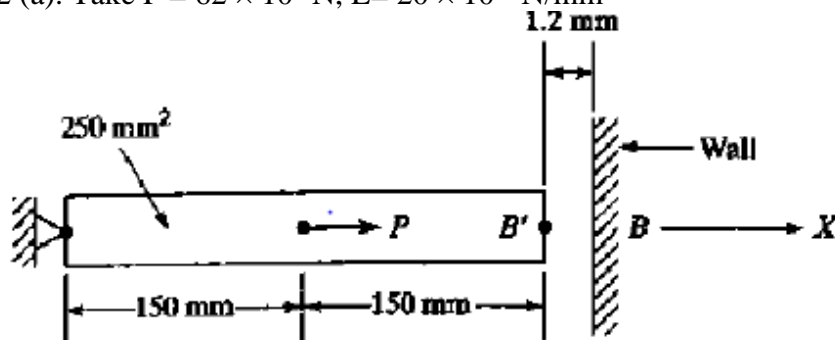

Figure 2 (a)
- 2 a) Determine the displacements stress and support reactions in the structure shown in the figure 2 (a). Take $P = 62 \times 10^3$ N, $E = 20 \times 10^3$ N/mm²